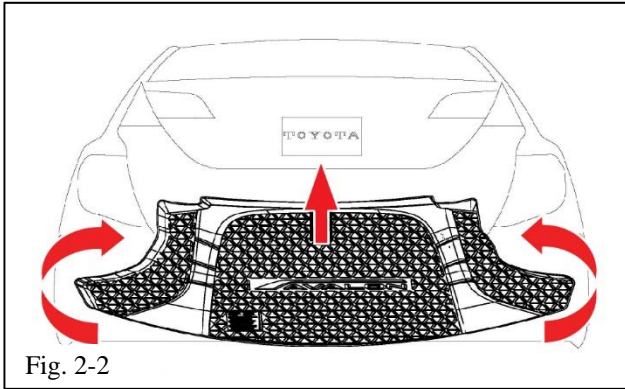

Fig. 2-2
- !** (b) Grasp the tray by the sides and fold up and inward sufficiently to slide it into the rear compartment. After installing the tray, ensure all the edges are pushed down against the floor (Fig 2-2).